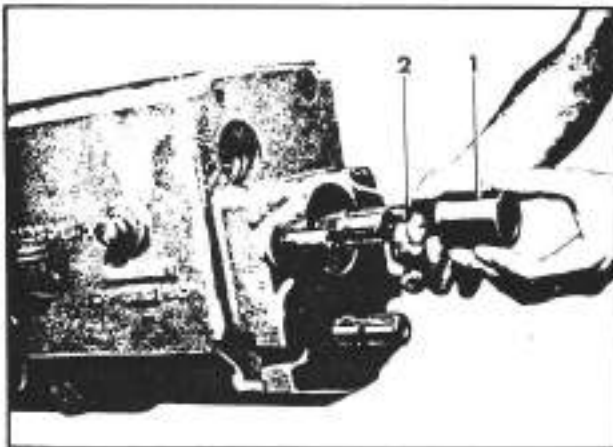

Fig. 3-31. Removal of the spacer and retaining ring
- h. Take off the spacer (1; fig. 3-31) and the retaining ring (2, fig. 3-31).